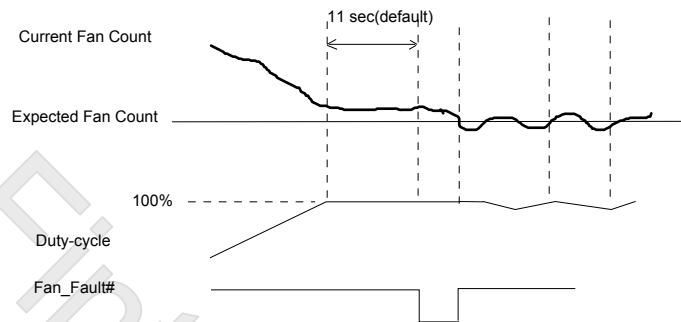

Figure 6-3
- (1). When PWM_Duty reaches FFh, the fan speed count can't reach the fan expected count in time. (Figure 6-3)